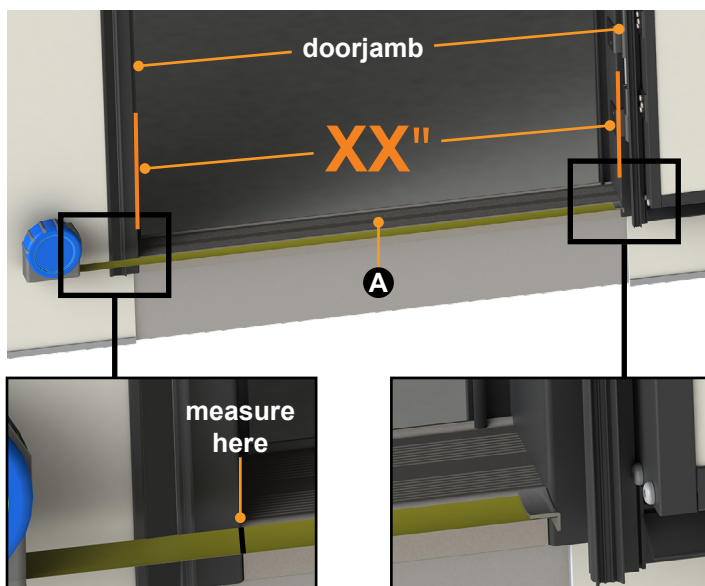

Fig.2
To verify the proper size of the Screen Assist required, just above the threshold (Fig.2A), at the front of the entry door opening (NOT the screen door), measure from doorjamb to doorjamb (Fig.2). Round up approximately $\frac{5}{8}$ " to determine the rough opening (RO) door size. The Screen Assist will only fit doors with rough openings between 26 and 30 inches.